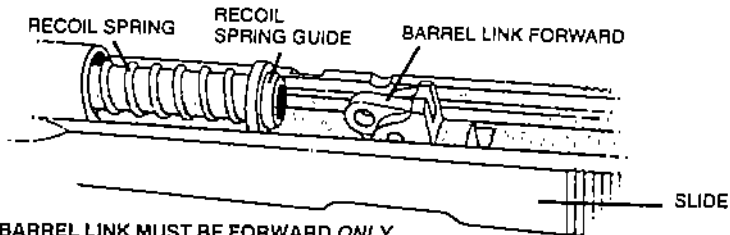

FIGURE 8 - BARREL LINK MUST BE FORWARD ONLY FOR BARREL TO BE REMOVED AND ASSEMBLED THROUGH THE SLIDE.
8. Lift recoil springs and guide and pull them rearward out of slide. (See Figure 8).
1. With slide upside down and barrel link forward, assemble barrel into the slide, as in Figure 8.